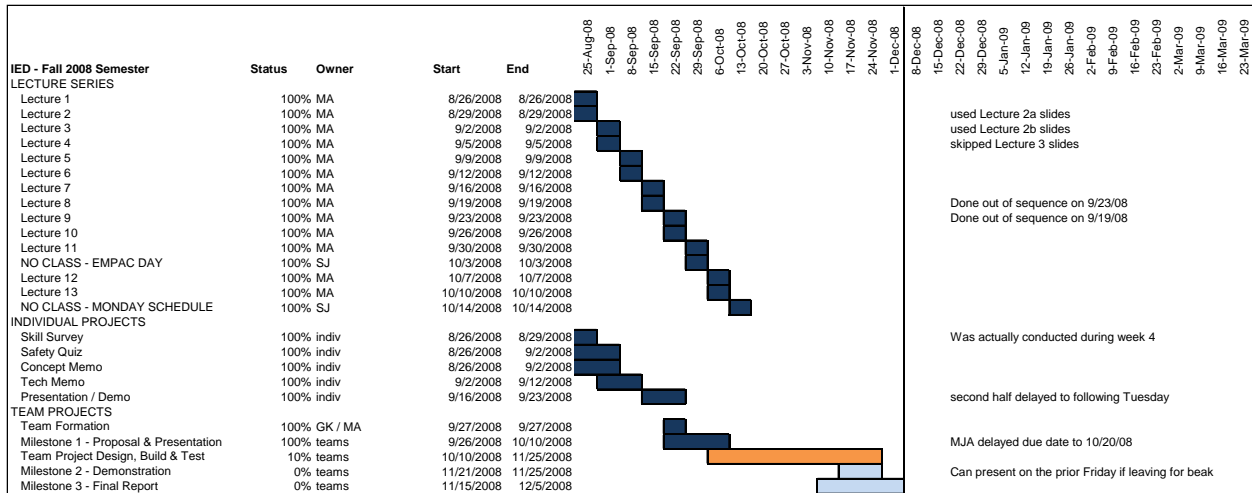

Figure 1 – Sample Gantt Chart
A sample Gantt chart might look like Figure 1. Note that in this sample, the project ends in early December although the chart continues for a longer period of time. The additional space was used to provide room to add comments to some of the tasks.
- **Changing the date scale.** On the Setup tab of the workbook you can change the date scale from 7 days per column, as used for the example in Figure 1 to a value of 1 day per column. A scale of 7 days per column makes it easier to see a summary chart. A scale of 1 day per column makes it easier to actually manage the day to day activities for a single semester project.